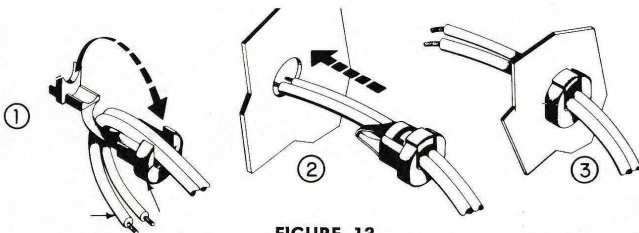

FIGURE 13.
- ☐ Line cord and bushing. Remove  $\frac{1}{4}$ " of insulation from the end of the line cord. Mount as shown in Figure 13, letting the end of the line cord extend  $3\frac{1}{2}$ " past the bushing.